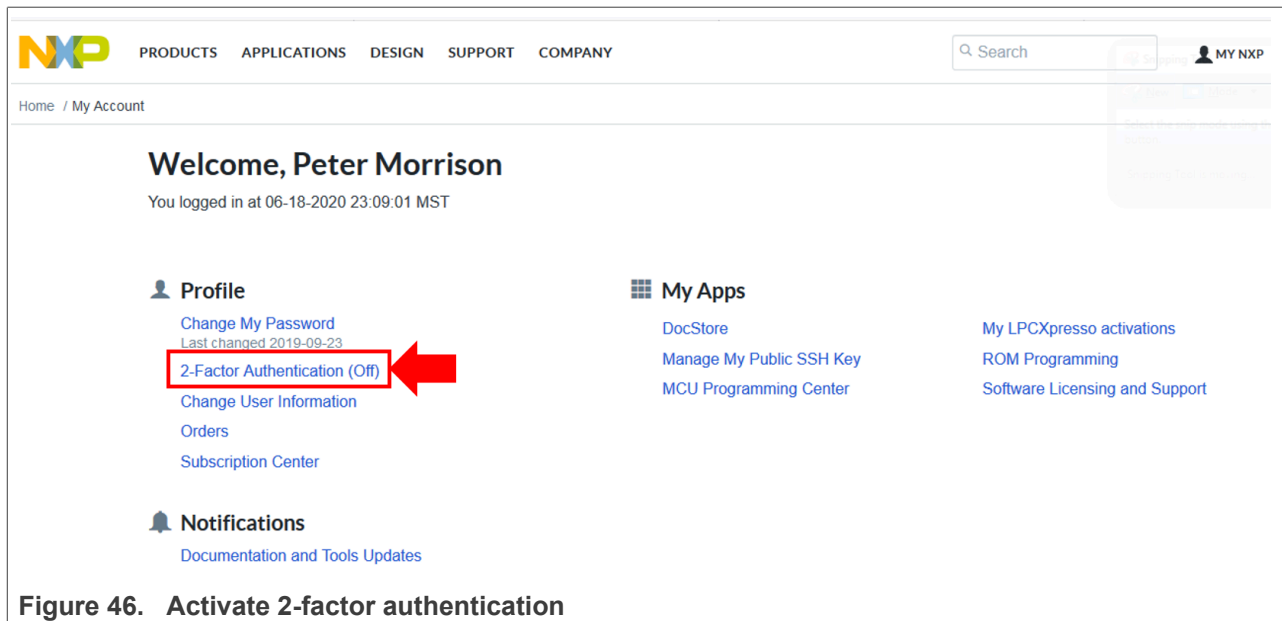

Figure 46. Activate 2-factor authentication
- When your NXP account is active, you should activate 2-Factor authentication for additional protection. Go to <https://www.nxp.com/ruhp/myAccount.html>, sign in with your NXP account and click on the *2-Factor Authentication (Off)* link as shown in Figure 46: